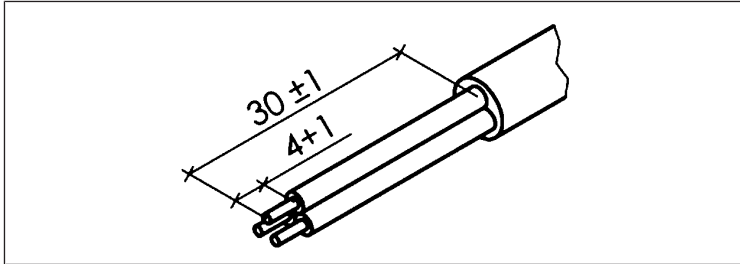

Fig. 4: Wire stripping length specifications when using single wires
- When using single wires: Comply with the wire stripping length. See → Fig. 4.